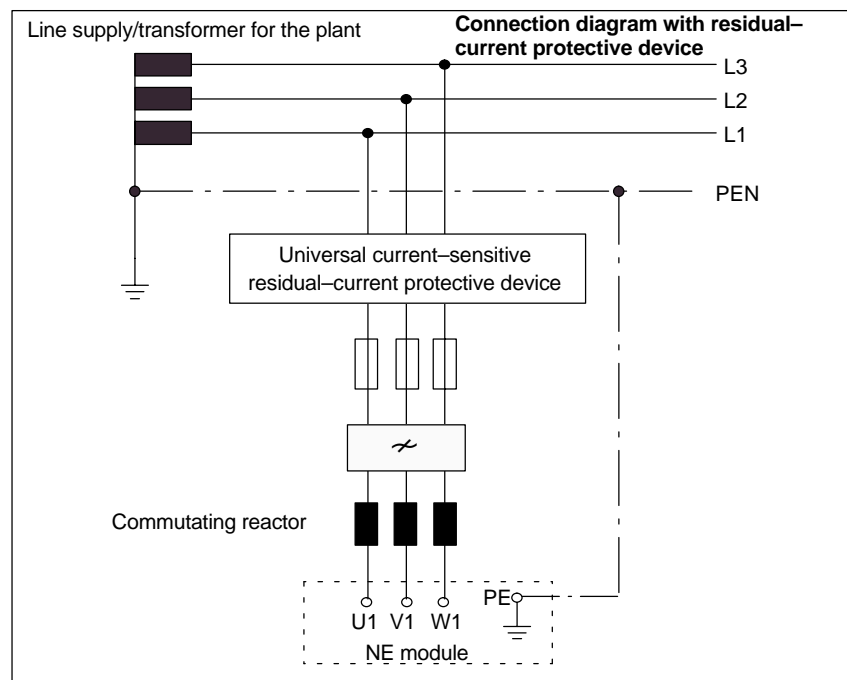

Fig. 2-14 Connection diagram, residual-current protective device
- only delayed (selective) universal residual-current protective devices are permissible (connected-up as shown in Fig. 2-14),